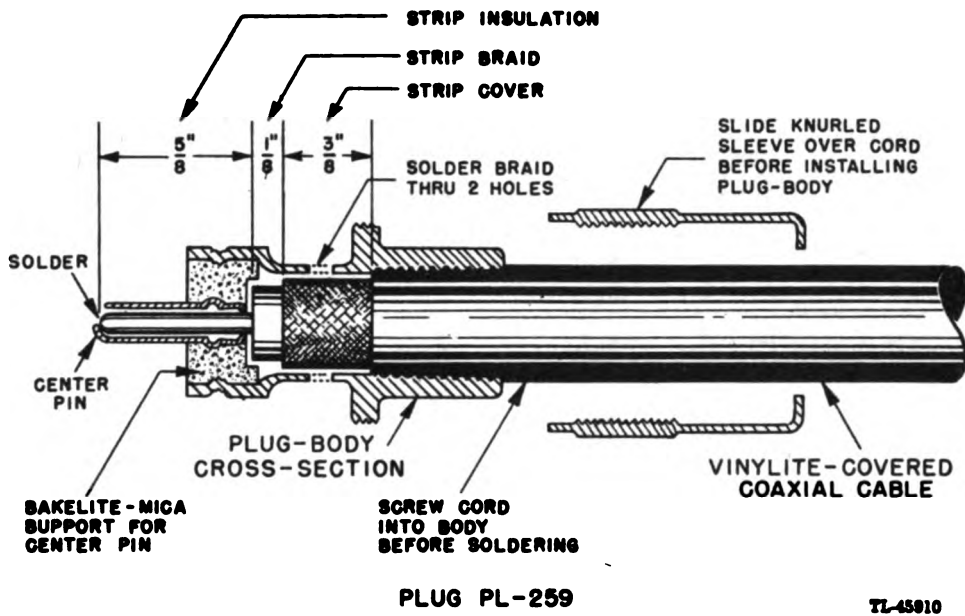

Figure 54. Plug PL-259, cable preparation and assembly.
b. The following table specifies the terminations of the interconnecting and test cords furnished with Radar Set AN/TPX-4. All these cords are vinylite covered, making the replacement of connectors comparatively easy. Figures 54 and 55 are self explanatory aids in the cable